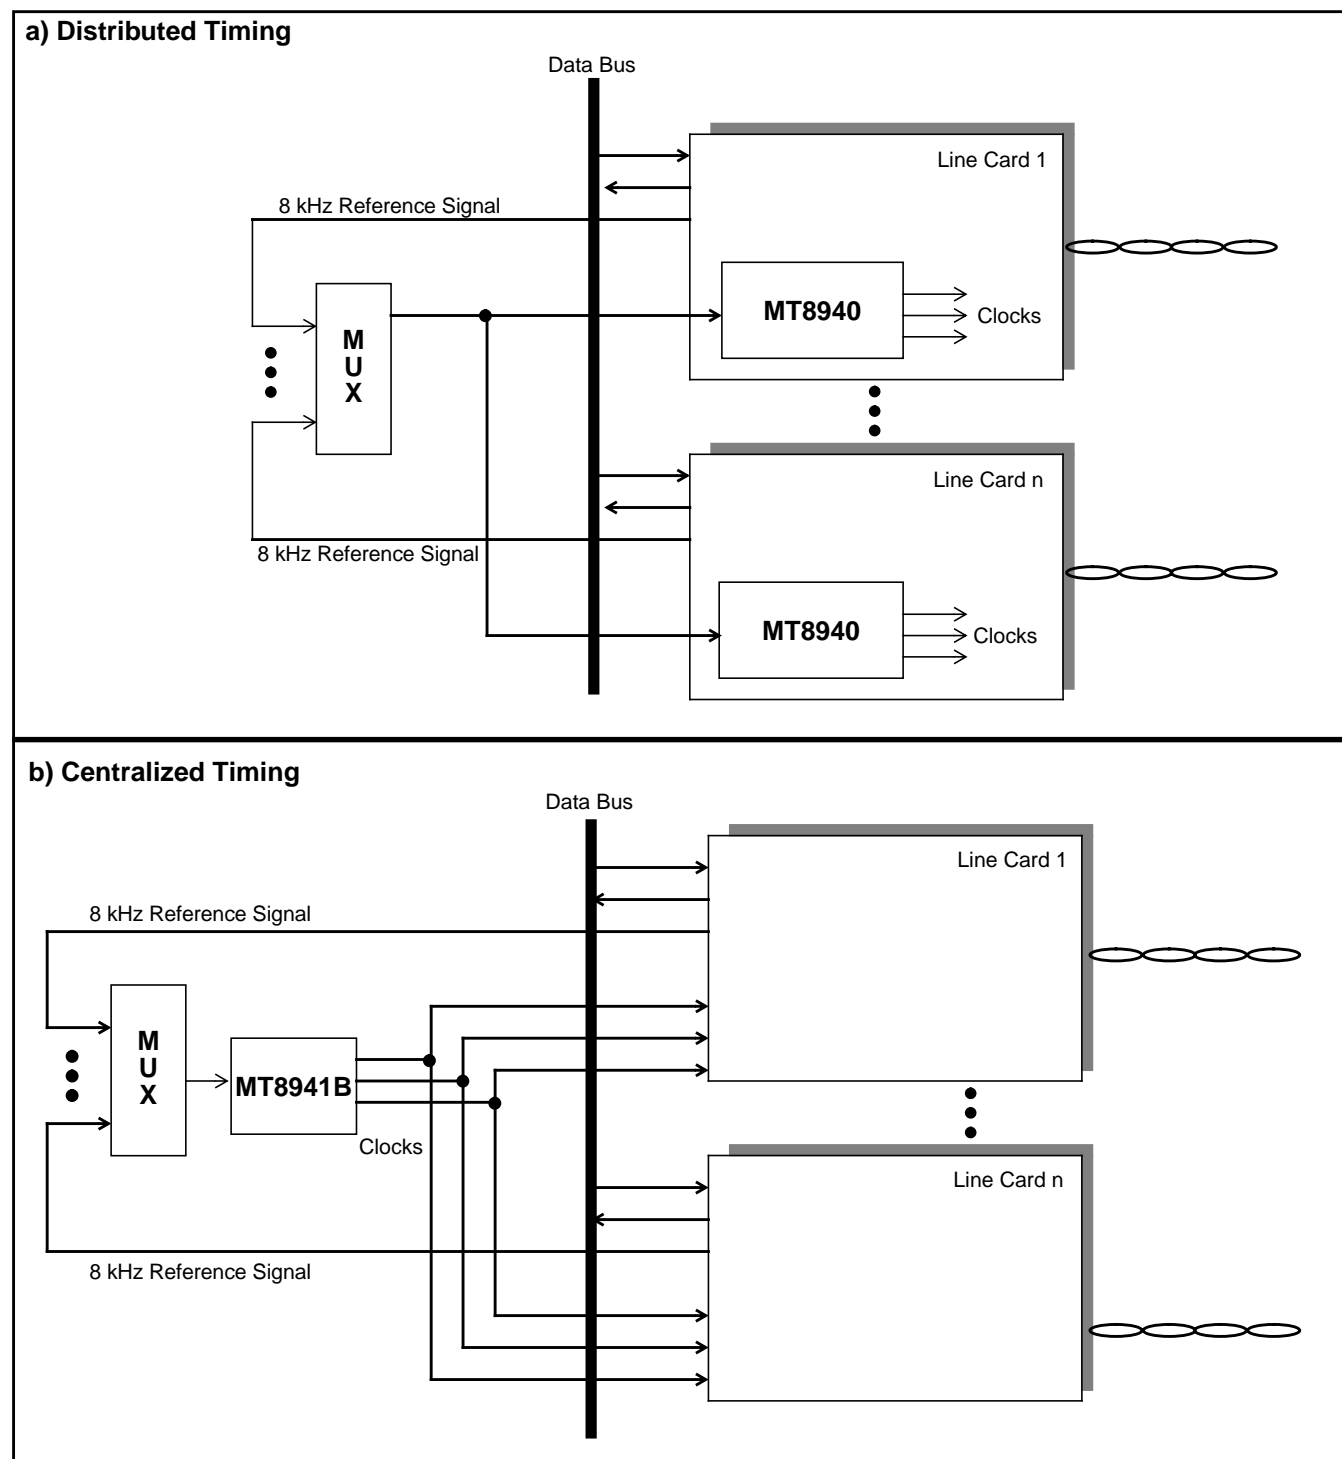

Figure 8 - Application Differences between the MT8940 and MT8941B
2. The MT8941B includes a no-correction window to filter out low frequency jitter and wander as illustrated in Figure 4. Consequently, there is no constant phase relationship between reference signal  $\overline{F0i}$  of DPLL # 1 or C8Kb of DPLL #2 and the output clocks of DPLL #1 or DPLL #2. Figure 4 shows the new phase relationship between C8Kb and the DPLL #2 output clocks. Figure 8 illustrates an application where the MT8941B cannot replace the MT8940 and suggests an alternative solution.